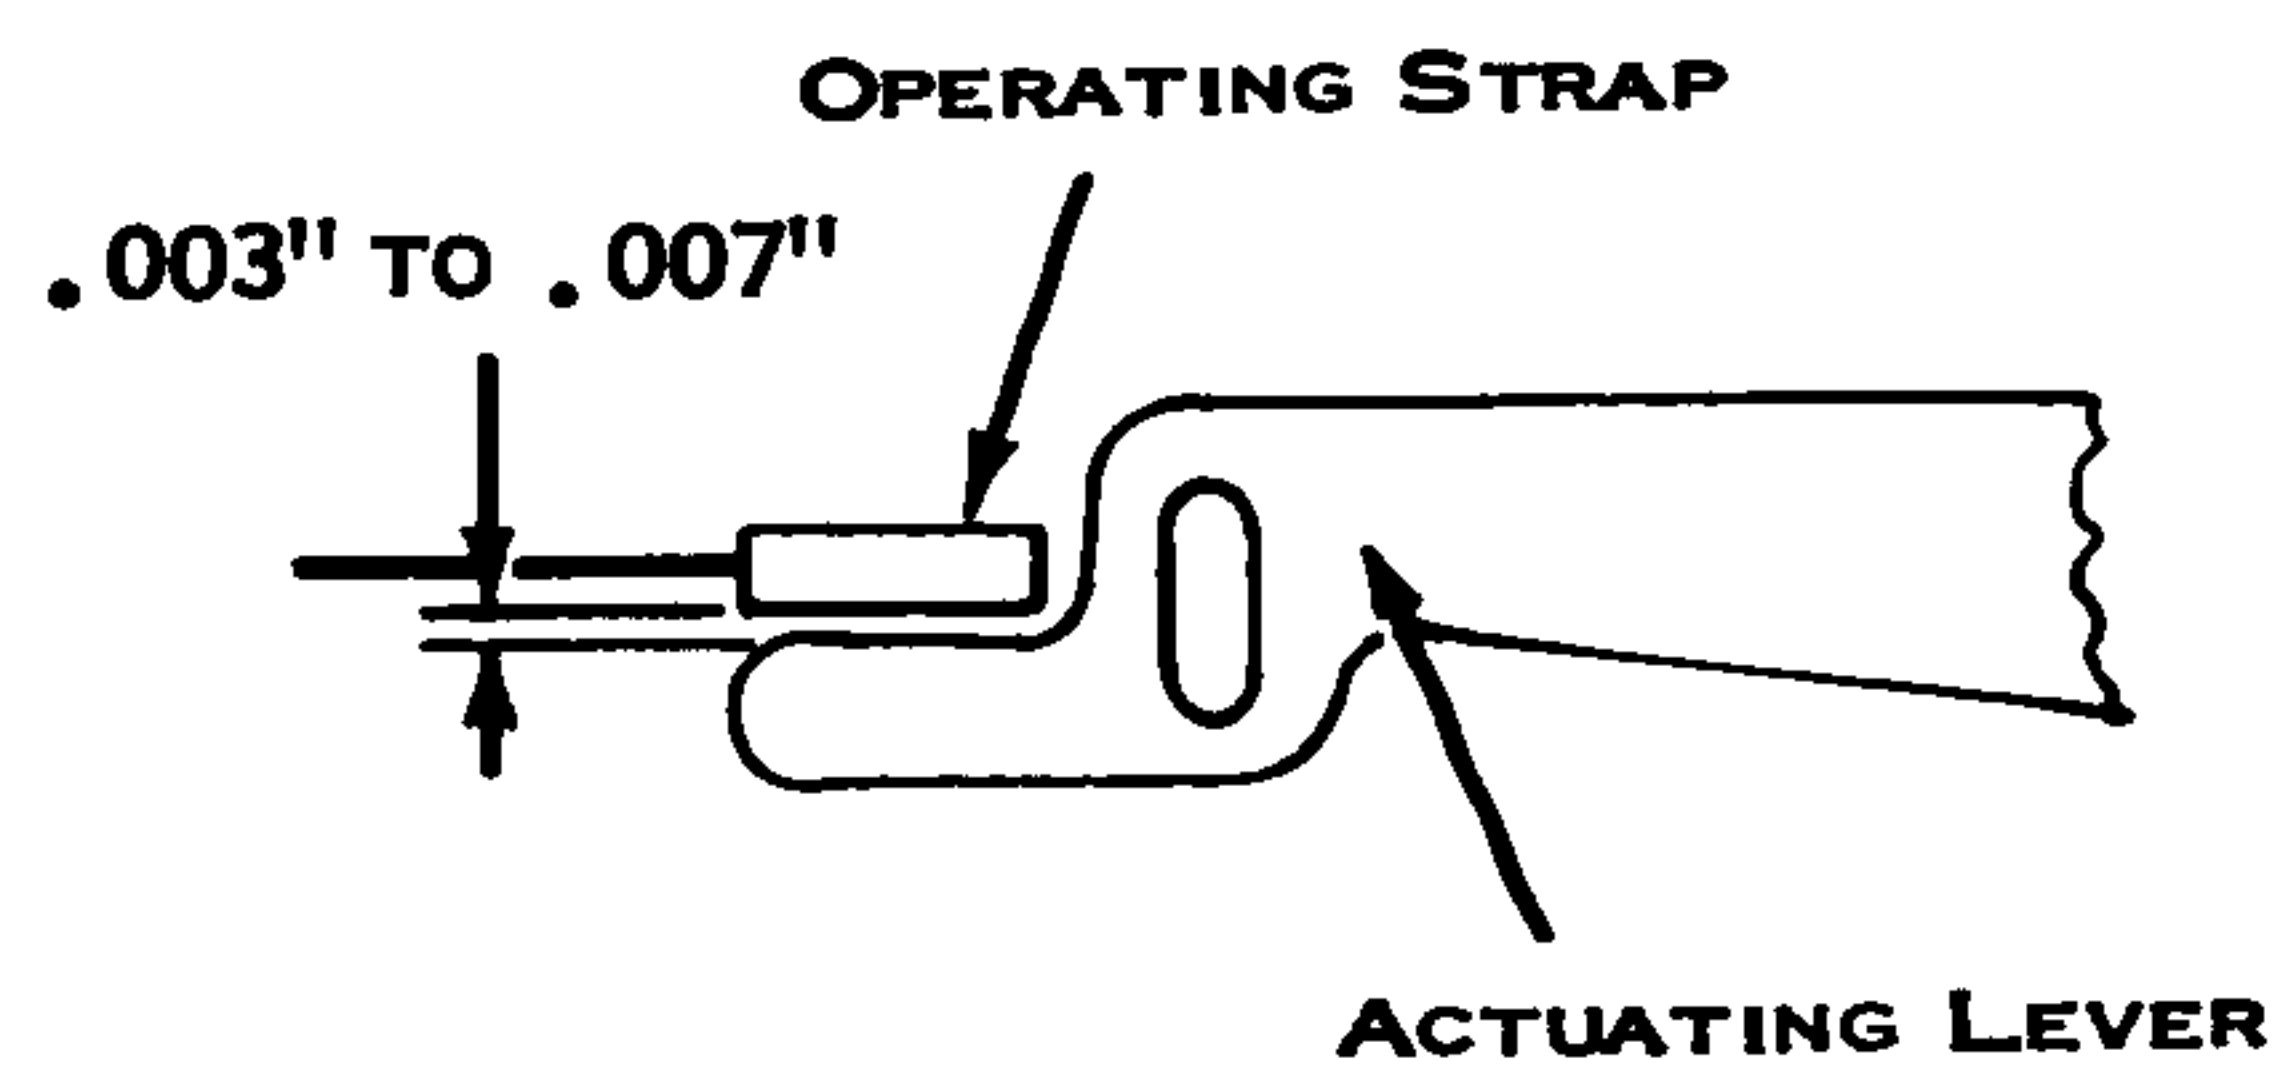

Figure 48. Mode Contact Actuating Lever
13. Position the contact bracket for a clearance of  $.003''$  to  $.007''$  between the operating strap and actuating lever (Fig. 48).